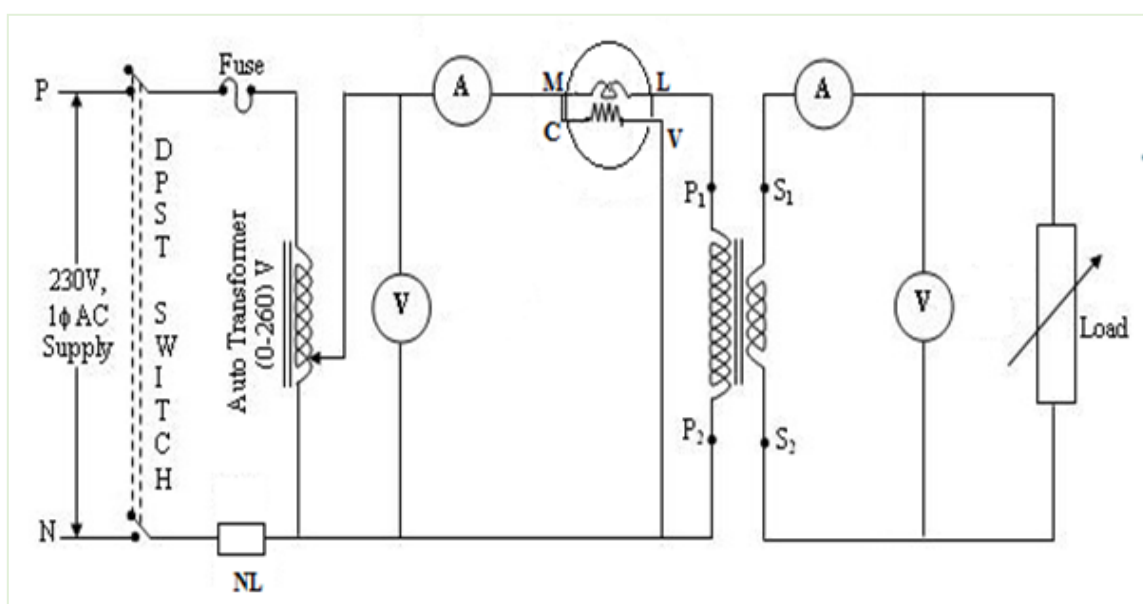

Figure 3 - LOAD TEST ON SINGLE PHASE TRANSFORMERS
1. Calculate the different currents and voltages by using voltmeters and ammeters from Figure 3.